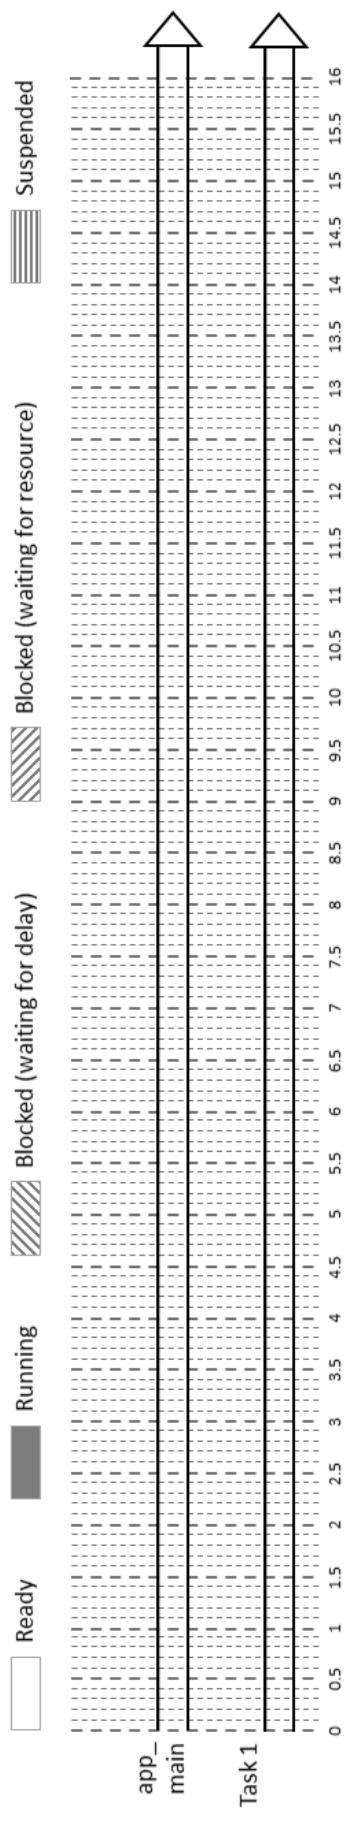

FIGURE 1.1 – Scheduling of 2 tasks.
7. Trace in the figure 1.1 the behavior of the *app_main()* and *Task 1* tasks until 160 ticks.